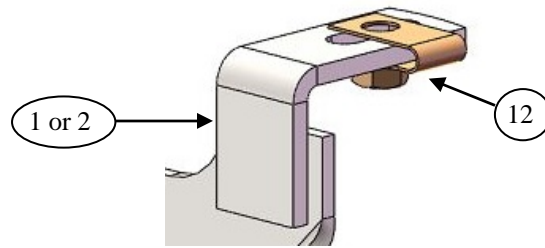

Figure 6 A
- Position the left and right frame brackets (#1) and (#2) up against the outer surface of the truck frame with the mounting tabs positioned over the frame and under the bed in line with previously drilled holes in bed. See Figure 6.
7. Move the frame brackets so that they rest tightly against the flat side of the truck frame and underneath surface of truck bed. Drop the 5/8" hex bolts down through 5/8 lock washer (#10), 5/8 flat washer (#11) and the bed rails and angle bracket. Thread bolts into clip Nuts (#12) placed over frame bracket tabs. See figure 6 & 6A .Securely bolt frame brackets in place.
Be sure they are tight against the side of truck frame. See Figure 6. Tighten each 5/8" bed rail attachment bolt (#9) to 150 ft-lbs. torque. Failure to tighten bolts as described may result in fastener loss or failure. DO NOT apply torque to the nut portion of the clip nuts (#12). You will DAMAGE it.